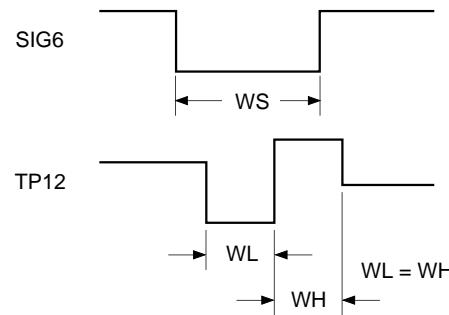

Fig. 1-2. Horizontal AFC adjustment
Input SIG6 ($VL = 0mV$) to (A) and adjust VR12 so that WL and WH of the TP12 output waveform are the same. (See Fig. 1-2.)